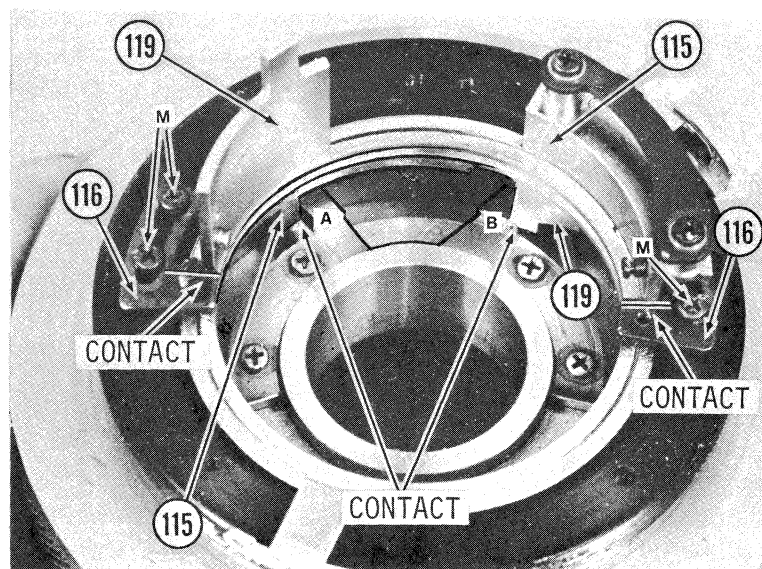

Fig. 68
13.2.2 The tip of the Diaphragm Coupling Ring (119) should rest against Stop "B". (Fig. 68)
13.2.3 The tip of Diaphragm Setting Ring (115) should rest against Stop "A". (Fig. 68)
13.2.4 Adjust positions of Stop Plates (116) so that they just make contact with Diaphragm Setting Ring (115) and Diaphragm Coupling Ring (119) as shown (Fig. 68). Parts of Canon Mount are cut away for illustration.